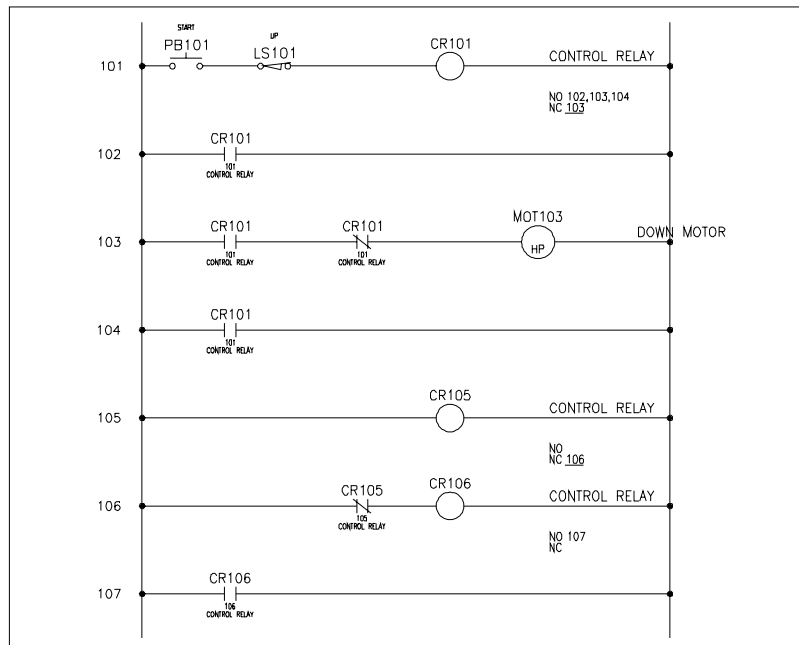

Figure 6-49 Components inserted in the drawing
- After entering description and other information in the **Insert / Edit Component** or **Insert / Edit Child Component** dialog box, choose the **OK** button; the components are inserted in the drawing, as shown in Figure 6-49.